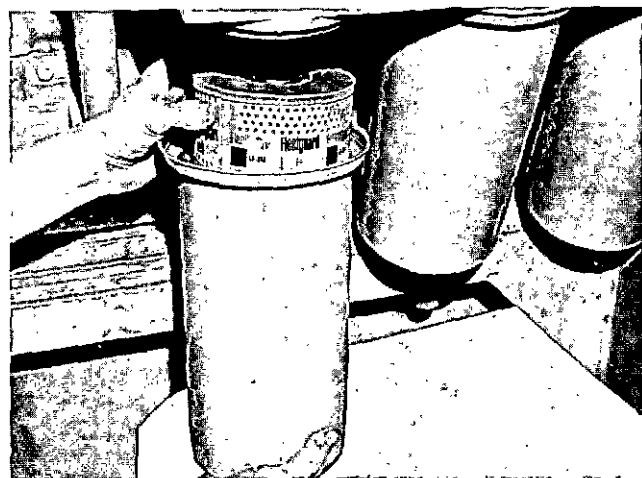

Fig. 5-12. Removing paper element lubricating oil filter(s)
3. Withdraw filter element Fig. 5-12, inspect, then discard.